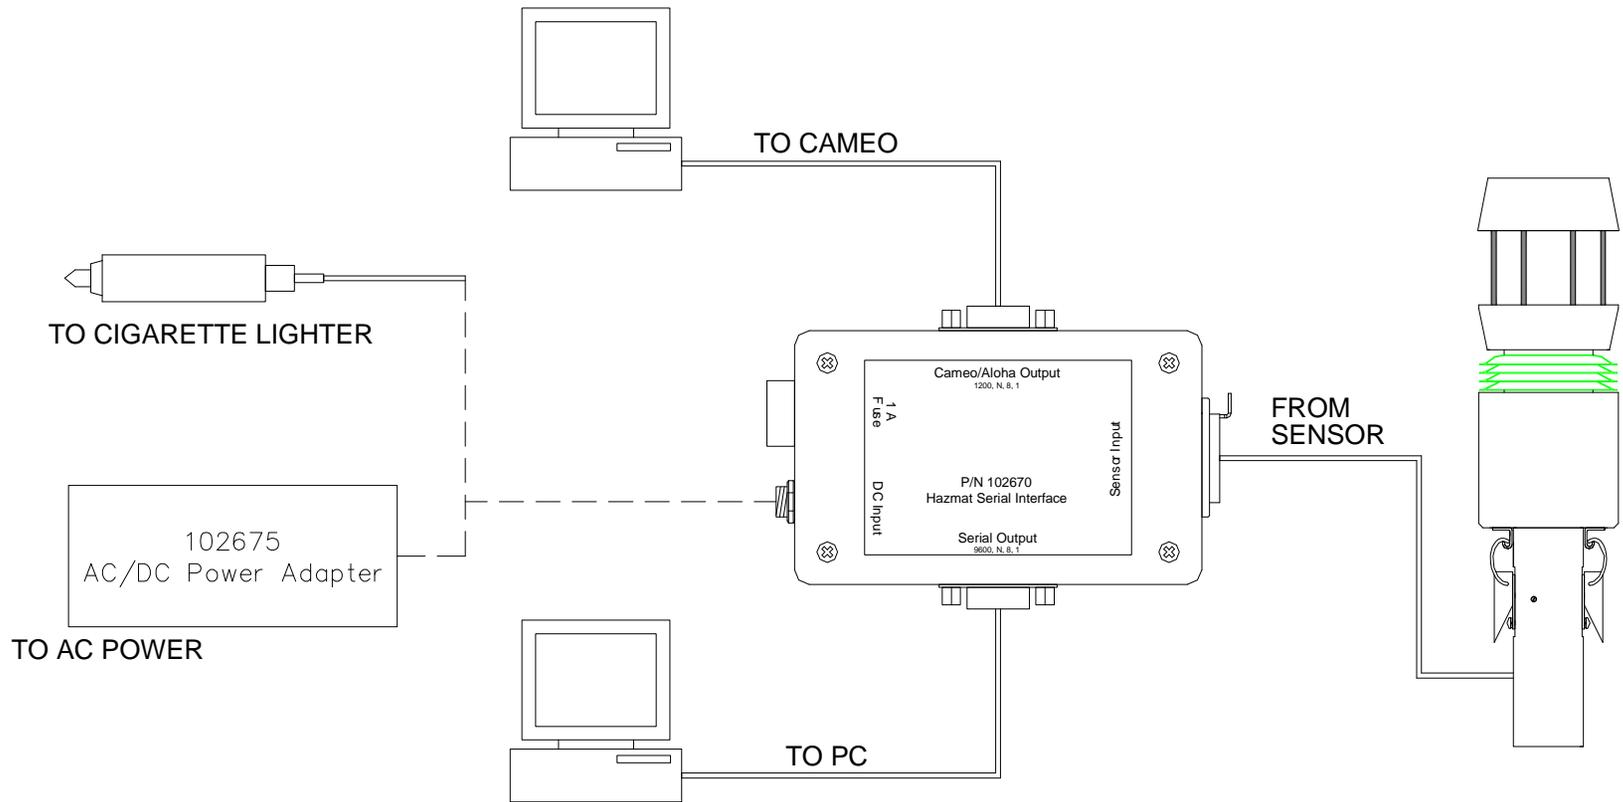

Figure 2
Install P/N 102607 Quick Mount on top of a 3/4 inch mast (1.05 inch O.D.). Tighten the set screws with a 1/8 inch Allen Key (See Figure 2).
Please refer to Figure 2 for an installation diagram for the 102670 Hazmat Serial Interface and remote sensor.
5.2.1 Set up the Hazmat system as noted in Section 2.0 and Figure 2. Do not apply power to the Hazmat Serial Interface.